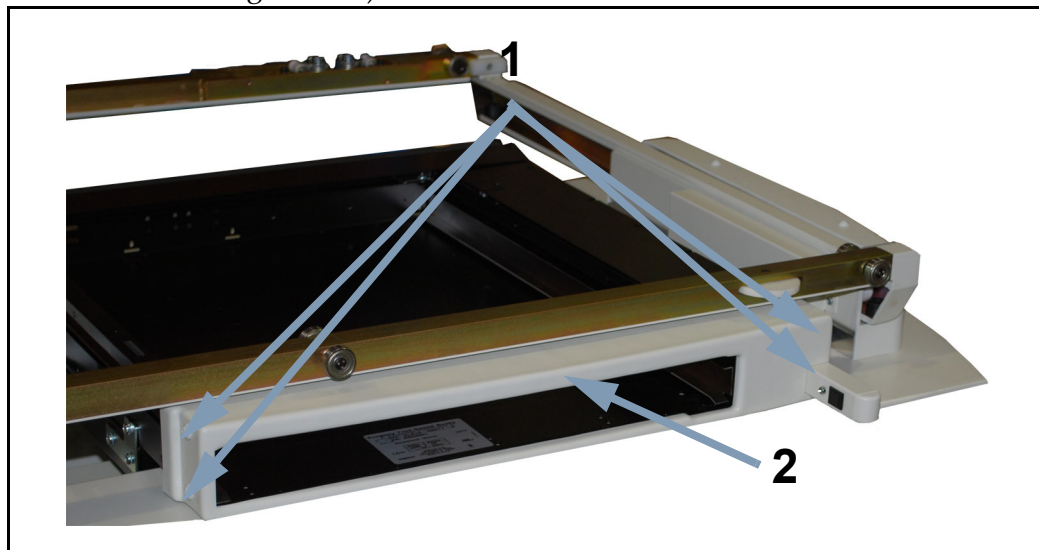

Figure 6-18. Bucky Mounting Screws
- 5 Unscrew the four bucky mounting screws (2 on each side) (1 in Figure 6-18).